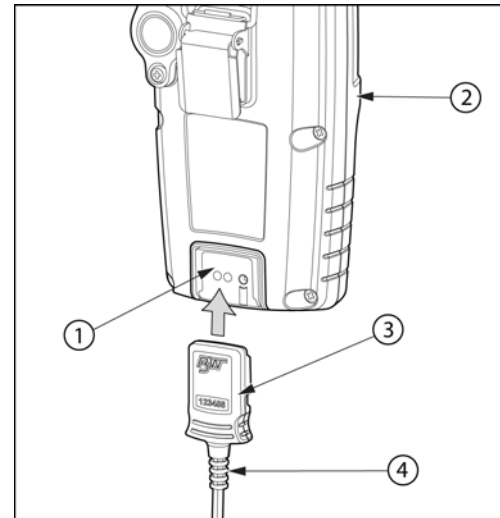

Figure 8. Connecting the Charger Adapter
To charge the battery, refer to Figure 8, Table 11, and the following procedures:
3. Attach the charging adapter (Figure 8) to the charger interface.